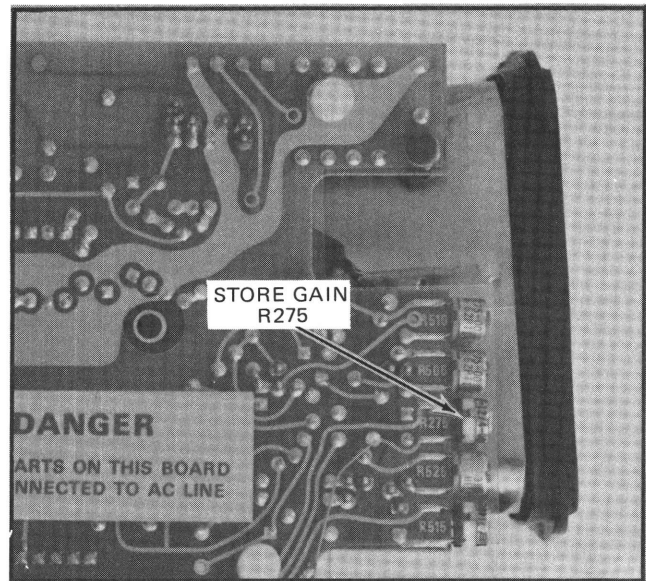

Fig. 4-7. Location of Store Gain adjustment.
- f. ADJUST—Store Gain adjustment, R275 (see Fig. 4-7) for exactly four divisions of deflection.